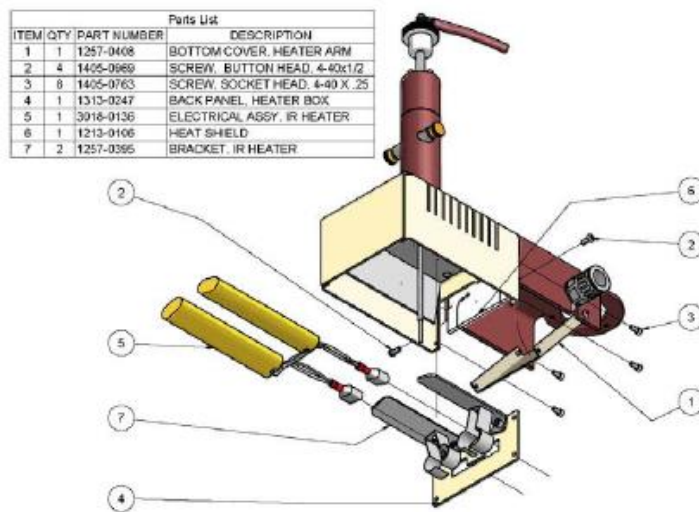

Fig 4
- A. Remove vacuum tubing line (1) and unscrew elbow fitting (2) from top of pick.
- B. Remove knurled knob (3) by loosening set screw (4).
- C. Remove 4 socket head screws (5).
- D. Remove black cap (6) from pick housing.
- E. Unscrew and remove vertical adjustment mechanism (7) and (8).
- F. Remove pick (9) from pick housing.
- G. Remove small snap ring (10) from groove on pick and slide off 2 springs (11), washer (12) and rack gear (13), noting assembly order. Reassemble on new pick.
15. **IR Heater Elements replacement. (Reference Figure 4)**